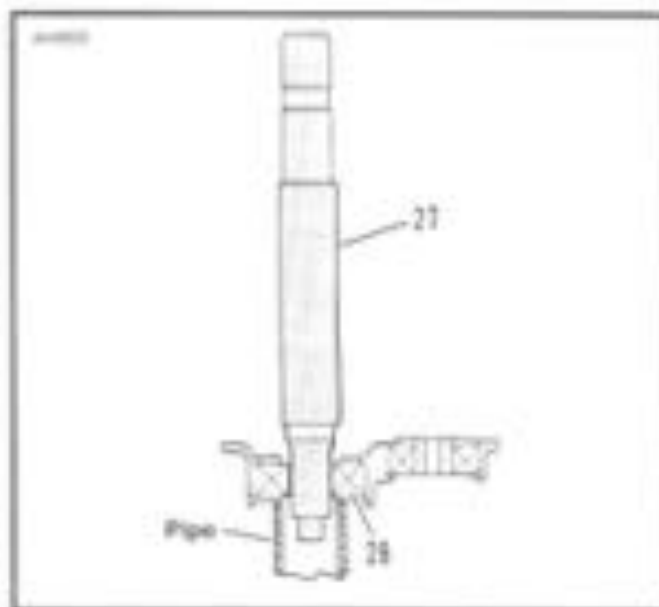

Figure 6-36.
- Find a section of pipe that matches the inner race of bearing (28).
- See Figure 6-36. Place the door assembly outside downward, on a press with the inner race of bearing (28) resting on the section of pipe. Insert the splined end of the shaft through the bearing and hold in a vertical position. Press the shaft into the bearing until the bearing bottoms against the shaft shoulder.